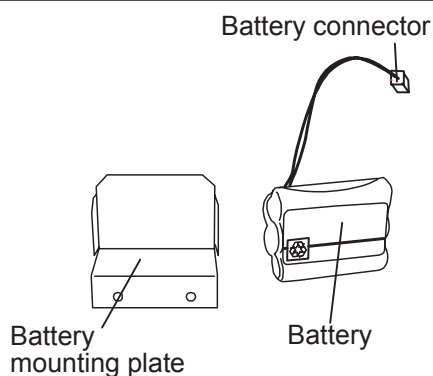

Fig. 4
4. Take out the battery. (Fig. 4)